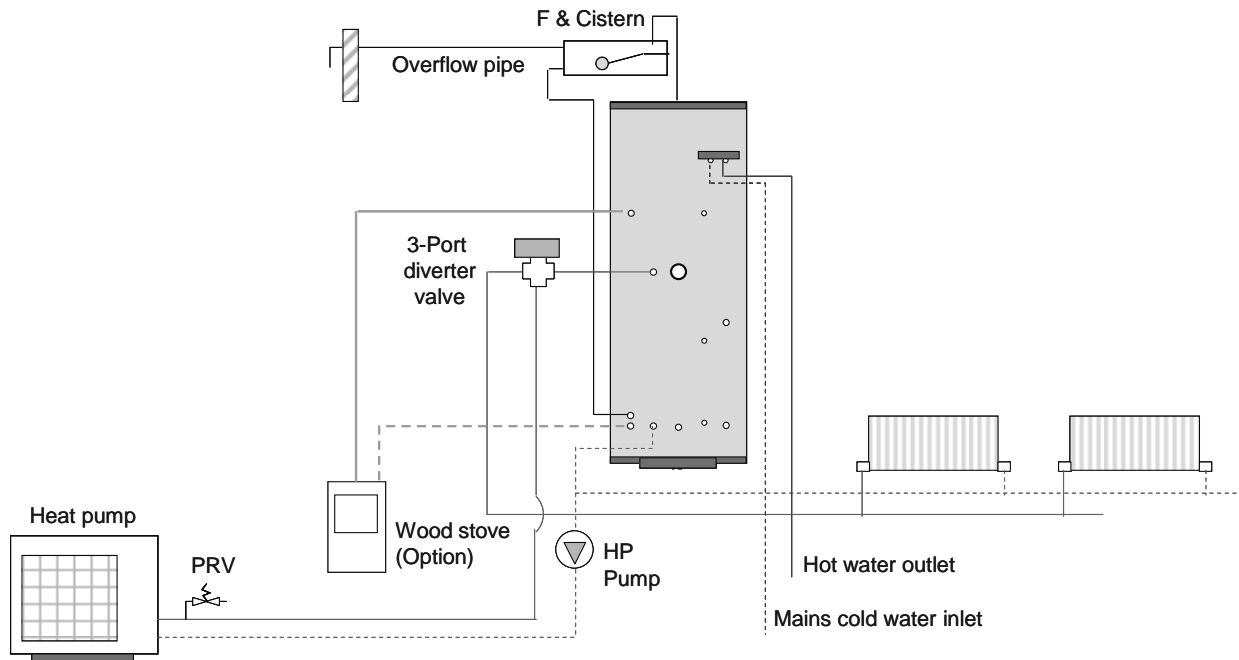
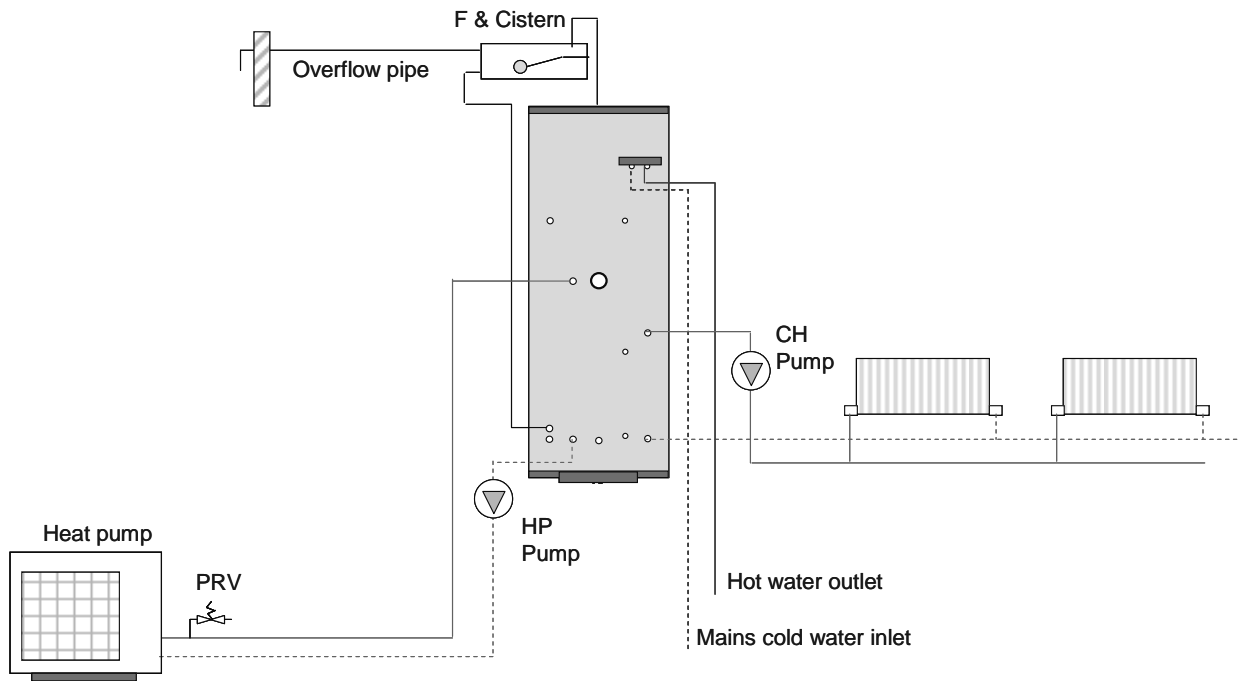

Figure 6: Typical Torrent^{HP} system configuration with an optional wood burning stove and central heating supplied directly from the heat pump.
Figure 7: Typical Torrent^{HP} system configuration with central heating supplied from a thermal store
The Torrent HP models are designed to be heated directly by the heat pump and the central heating can be supplied directly from the heat pump as shown in figure 6 or from a thermal store as shown in figure 7.
The Torrent HP models are designed to be heated directly by an air or a ground source heat pump and the space heating can be supplied directly from the heat pump circuit as shown in figures 6 and 8 or from the thermal store as shown in figures 7 and 9. The selection between the two options will depend upon the operating characteristics of the heat pump, type of heating system and control strategy. For general guidance: -
- If the heat pump requires a buffer for operation; for example to reduce rapid cycling etc, then the system would benefit if the heating system is supplied from the thermal store (figures 7 and 9). In this configuration, the operation of the heat pump is only controlled by the store thermostat(s).
- If the heat pump is multi-stage or modulating type or has weather compensating controls, then the space heating circuit should be supplied directly from the heat pump as shown in figures 6 and 8. In this system configuration, the thermal store is only used for producing hot water.
Where the whole of the heating system is supplied from the thermal store, figures 7 and 9, then a ballvalve and overflow should be fitted in the feed and expansion tank.
Where the heat pump supplies the heating circuit directly, figures 6 and 8, then fitting a ballvalve and overflow is optional if it is practical on occasions to manually fill the store. However, fitting a ballvalve and overflow will eliminate the need for the householder to undertake this task and is therefore preferable. If the siting of the Torrent HP makes it difficult to fit an overflow then the 'manual fill' option can be used. In all cases, if a ballvalve is fitted, then an overflow/warning pipe must always be fitted.